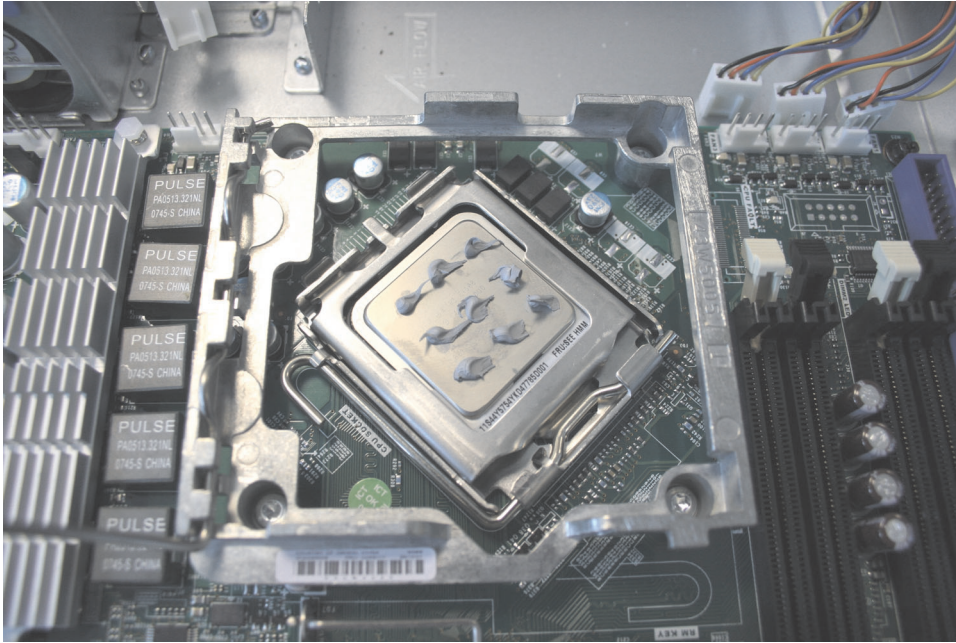

Figure 265. Complete set of nine thermal grease dots on the SAN Volume Controller 2145-8A4 microprocessor
- d. Apply thermal grease to the top of the microprocessor, as shown in Figure 265 on page 280. Apply nine dots of thermal grease in three rows of three dots each with the outer rows approximately 5 mm from the edge of the microprocessor. The diameter of the cap from the thermal grease syringe is 5 mm, so you can use it to judge the required position of the dots of thermal grease